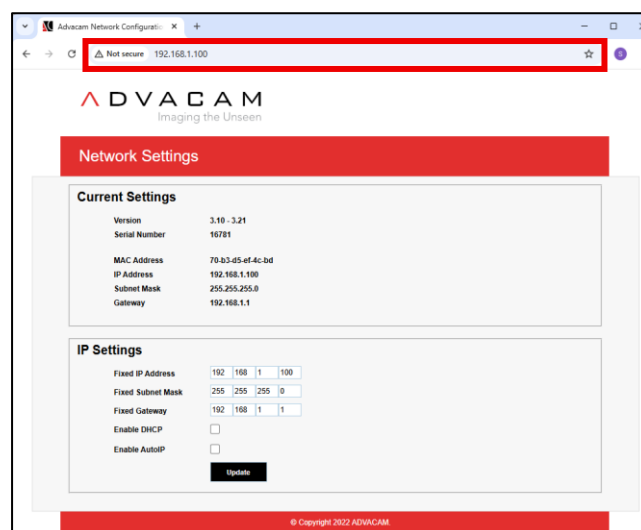

Figure 4: Network setting W4
- VI) Now you can connect to detector. Open your web browser and type IP address of device **192.168.1.100** (this is IP from factorial setting or after IP reset, if changed use new set one). Page with ADVACAM interface should open in your browser. In bottom panel you can update/change default IP address if needed. See Figure 4: Network setting W4